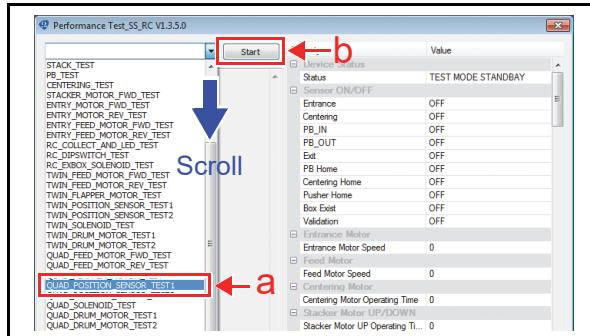

**Figure 6-58** Flapper Motor Operation Time Test (RQ Transport) 2
4. The measured time will appear in the “RC-Flapper (RC-Quad)” area (Figure 6-58 a) on the Screen.
6. Click the “Stop”  Screen Button (Figure 6-58 b) to end the test.